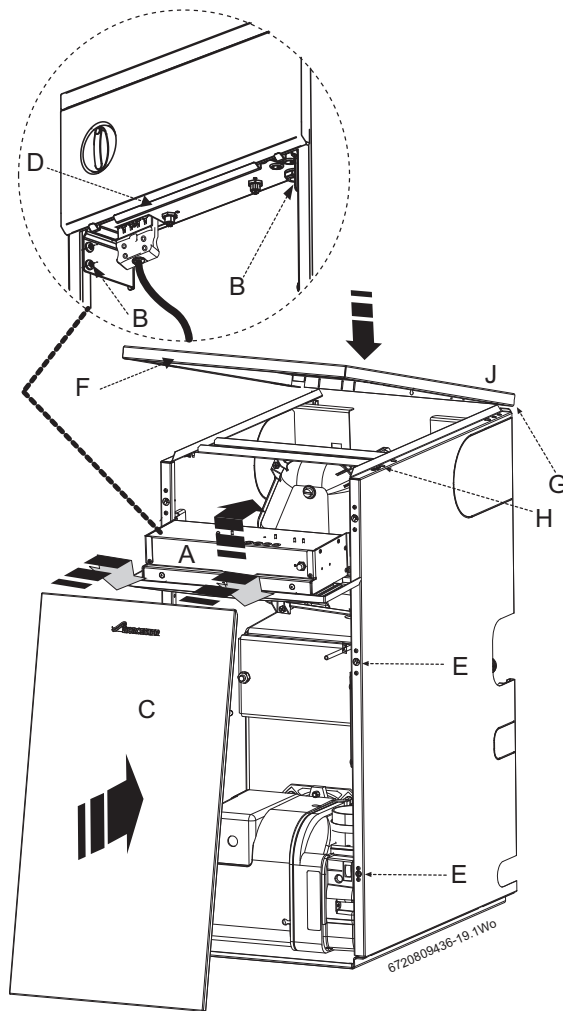

Fig. 71
- ▶ Pivot the control box (A) figure 71 up and into the boiler. Secure with screws (B).